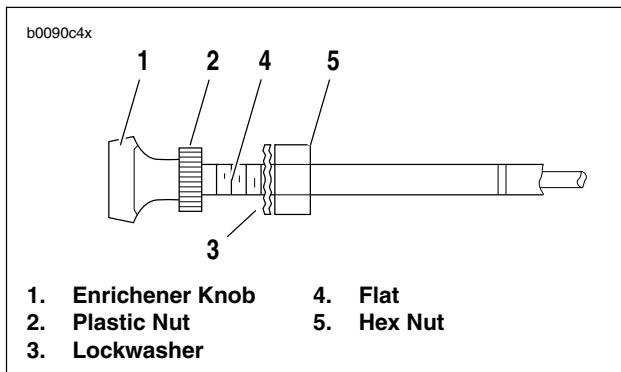

Figure 4-9. Fuel Enricher Control
See Figure 4-9. Check enricher operation. Enricher knob (1) should open (and remain open) and close without binding. Plastic nut (2), next to the enricher knob, controls the sliding resistance of the enricher control cable within the cable conduit. If adjustment is needed, perform the following:
1. Loosen hex nut (5) at backside of mounting bracket.
3. Hold cable assembly at flats (4) with a wrench. Adjust resistance until knob slides outward and remains fully open without assistance. Knob must also slide inward unaided.
- a. Turn plastic nut (2) by hand counterclockwise to reduce sliding resistance.